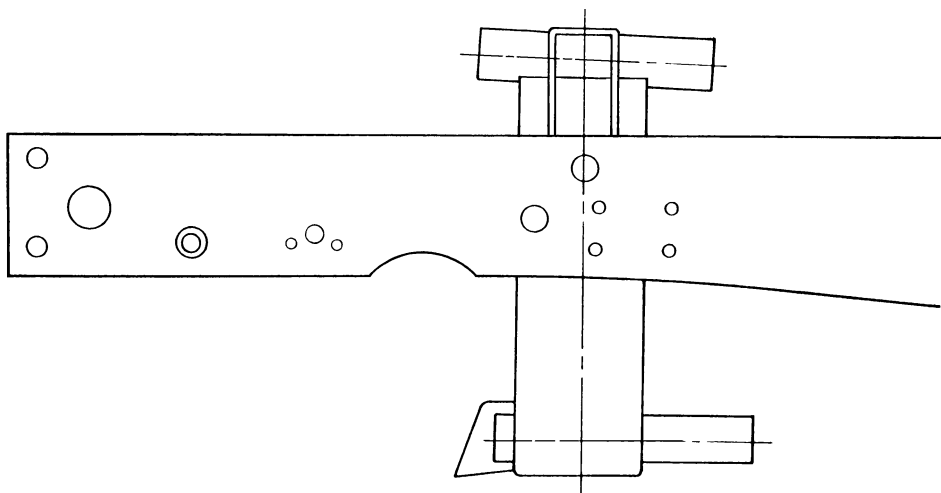

Figure 3
5. The rack and pinion must now be fitted to the frame. The rails will need to be C-notched to clear the rack boots, see Figure 3, and the rear portion of the factory crossmember will also need to be trimmed to clear the rack housing. Do not cut too much off the factory crossmember as it provides much strength to the front of the frame rails. This is a trial